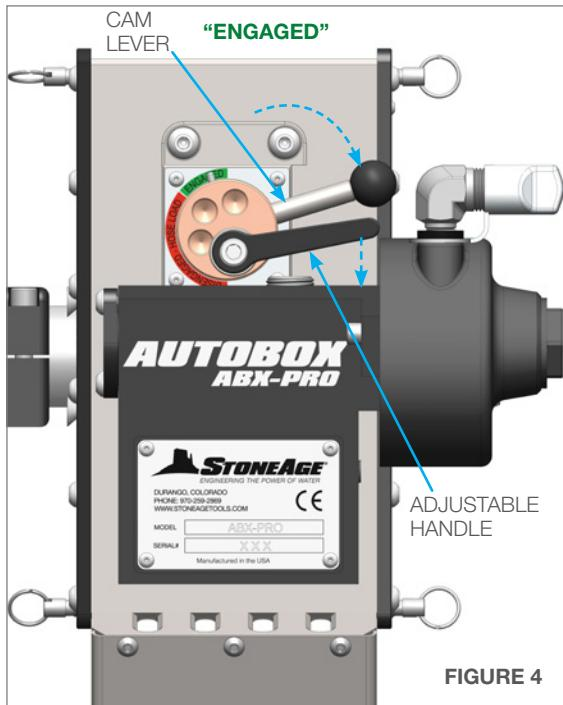

FIGURE 4
4. Rotate the Cam Lever clockwise to the **“Engaged”** position to tighten the Idler Roller down onto the hose. Push the Adjustable Handle down to tighten the bushing assembly. (**Figure 4**)